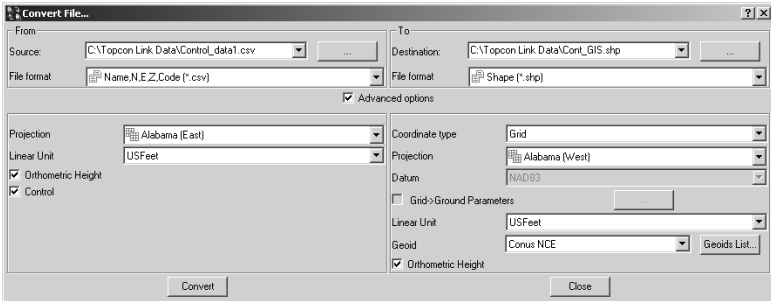

Figure 3-8. Convert File – Advanced Options
7. Click **Advanced Options** to display further conversion parameters. Enter the desired information (Figure 3-8).
8. Click **Convert** in the *Convert File* dialog box to start the file conversion (Figure 3-8).